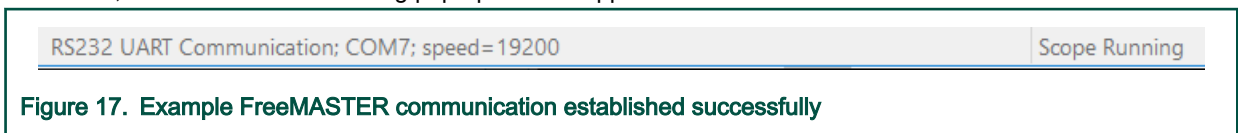

Figure 17. Example FreeMASTER communication established successfully
- If the communication is established successfully, the FreeMASTER communication status in the bottom right-hand corner changes from “Not connected” to “RS232 UART Communication; COMxx; speed=19200” (see Figure 17). Otherwise, the FreeMASTER warning pop-up window appears.